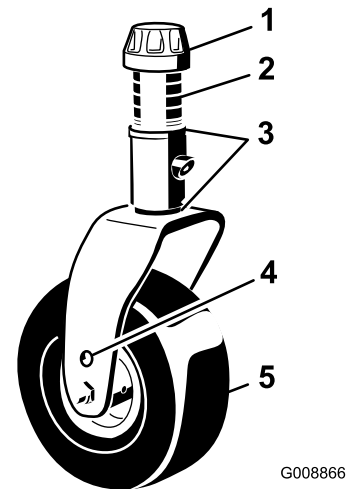
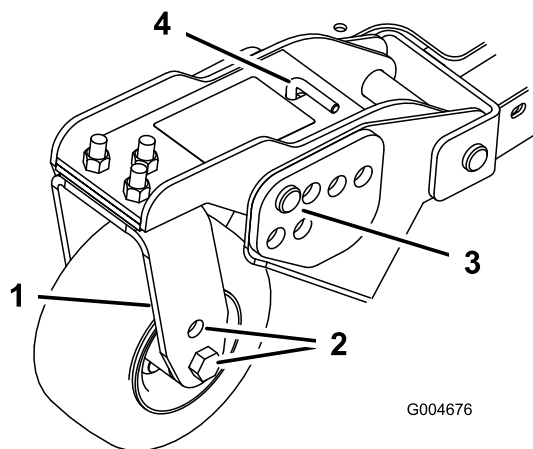
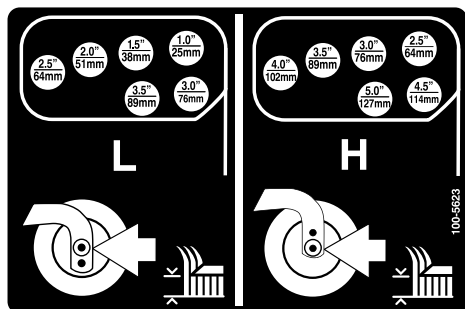

Figure 19
Figure 21
Figure 22
1. Position the caster-wheel axles in the same holes in all of the caster forks (Figure 19 and Figure 21).
2. Remove the tensioning cap from the spindle shaft and slide the spindle out of the caster arm (Figure 19).
6. Remove the hairpin cotter and clevis pins from the caster-pivot arms (Figure 21).
7. Rotate the tension rod to raise or lower the pivot arm until the holes are aligned with the selected height-of-cut bracket holes in the mower-deck frame (Figure 21 and Figure 22).